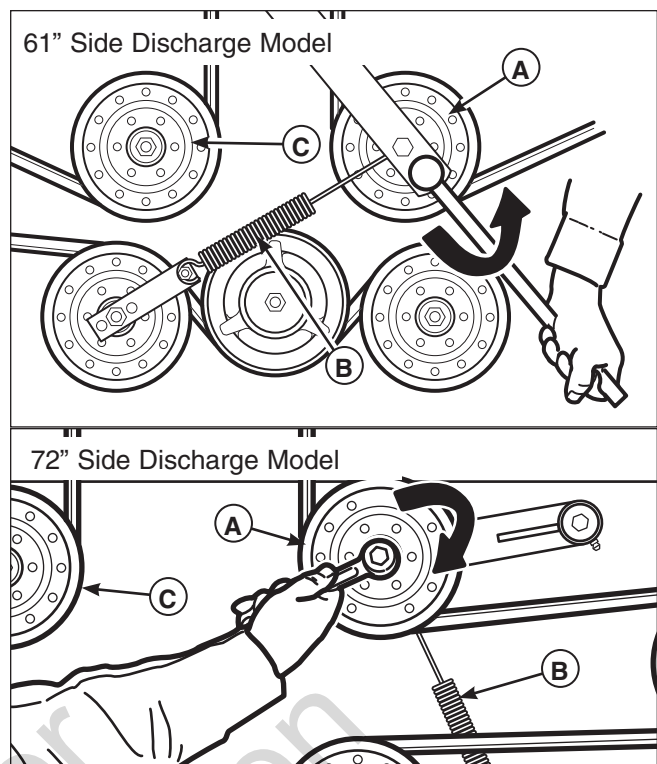
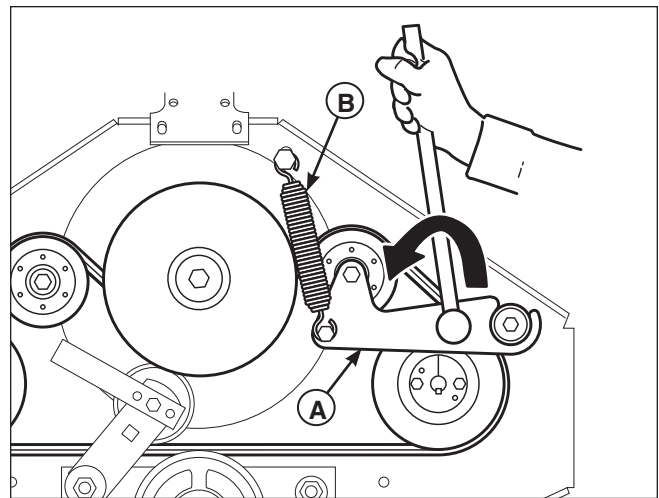

Figure 45. Mower PTO Belt
Figure 48. Pump Belt Removal & Replacement
4. **61" Side Discharge:** Using a 3/4" combination wrench rotate the spring-loaded idler pulley (A, Figure 45) COUNTER-CLOCKWISE to release the belt tension.
- 4a. **72" Side Discharge:** Using a 3/4" combination wrench, rotate the spring-loaded idler pulley (A, Figure 45) CLOCKWISE to release the belt tension.
5. Slide the drive belt over the edge of the stationary idler pulley (C) and carefully release the tension on the wrench until the spring tension is completely released.
8. **61" Side Discharge:** Rotate the spring-loaded idler pulley (A, Figure 45) COUNTER-CLOCKWISE and slide the drive belt over the edge of the stationary idler pulley (C). Make sure the V-side of the belt runs in the pulley grooves (Figure 48). Carefully release the tension on the wrench.
8. **72" Side Discharge:** Rotate the spring-loaded idler pulley (A, Figure 45) CLOCKWISE and slide the drive belt over the edge of the stationary idler pulley (C). Make sure the V-side of the belt runs in the pulley grooves (Figure 46). Carefully release the tension on the wrench.
4. Remove the 5/16" bolt, washer and nut (C, Figure 48) that fasten the rubber pad to the clutch and unscrew the wire ends that connect the clutch to the electrical harness.
3. Using a 1/2" breaker bar, place the square end in the square hole located in the middle of the idler arm (A, Figures 48). Carefully rotate the breaker bar COUNTER-CLOCKWISE, which will relieve the tension on the belts exerted from the idler arm.
4. Carefully rotate the idler arm with the breaker bar COUNTER-CLOCKWISE (see Figure 48). While holding the breaker bar firmly, install the belts in the left-hand pump pulley grooves and the two stationary idler pulleys grooves.